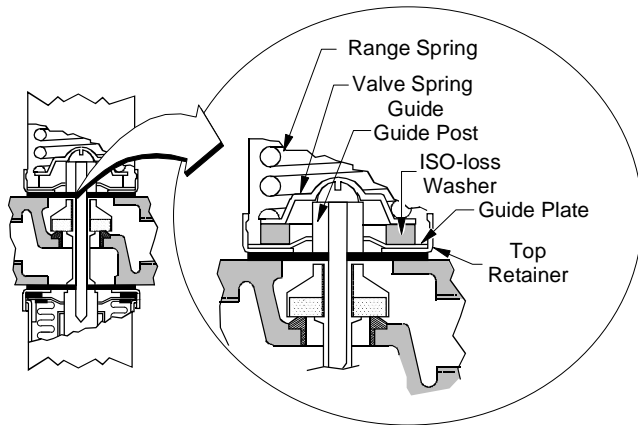

Figure 4: ISO-loss Washer
- b. Remove the range adjusting screw, spring, and valve spring guide (Figure 4).